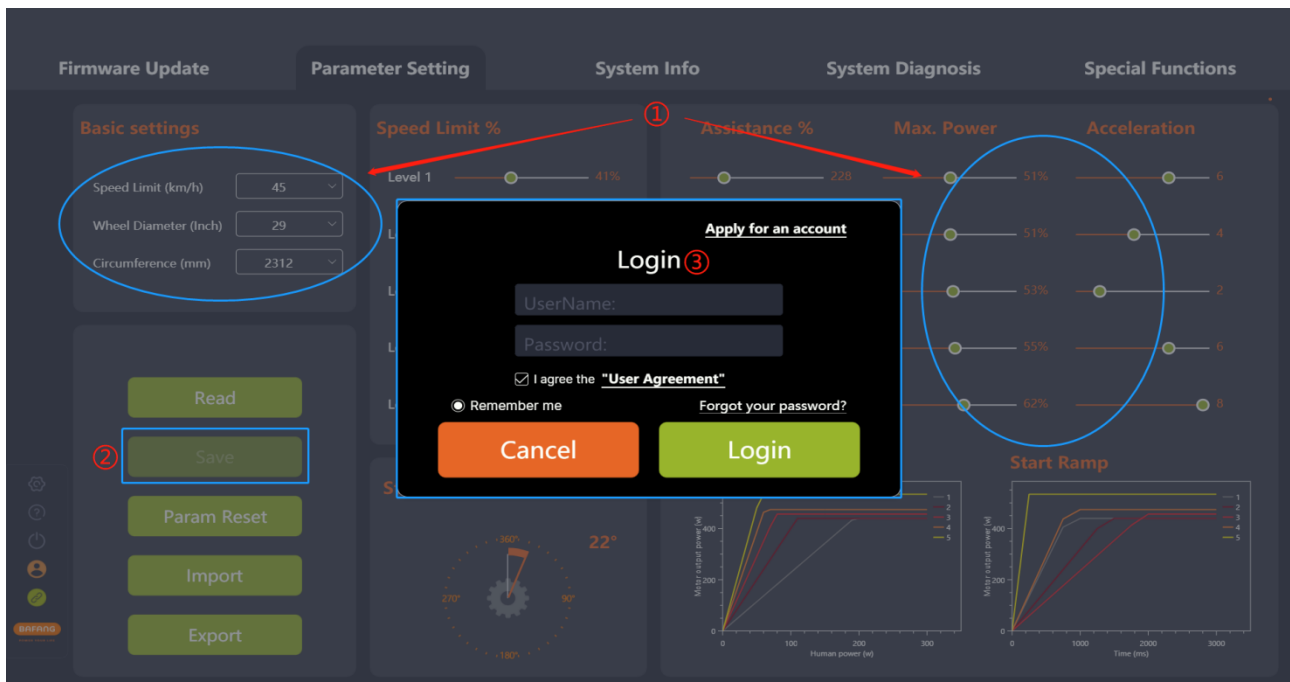

Fig. 5-13 Login
- (1) After reading successfully, adjust the parameters on the right side by pulling the slider.
- (2) Click the “Save” icon, and current parameters are saved to the controller.
- (5) If you are not logged in, the “Login” interface will pop up, prompting you to log in (Fig. 5-13). Note: Parameter setting is not possible without logging in.